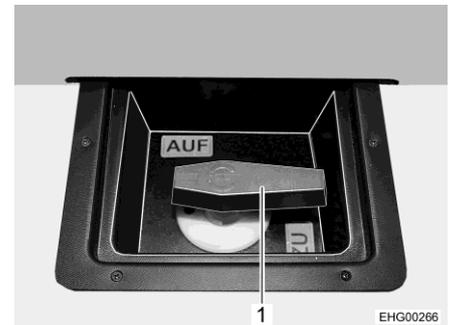

Fig. 145 Operating lever (waste water tank)
The drain cock for waste water is operated via an operating lever (Fig. 145,1). The operating lever (Fig. 145,1) for waste water disposal is located under a cover in the rear. The drain pipe with a connection for a waste water hose is located under the vehicle on the right-hand side.
- Open the drain cock. To do this, turn the operating lever (Fig. 145,1) of the drain cock to the "AUF" (open) position. The waste water will run out.
- Close the drain cock again once all of the waste water has run out. To do this, turn the operating lever (Fig. 145,1) of the drain cock to the "ZU" (closed) position.